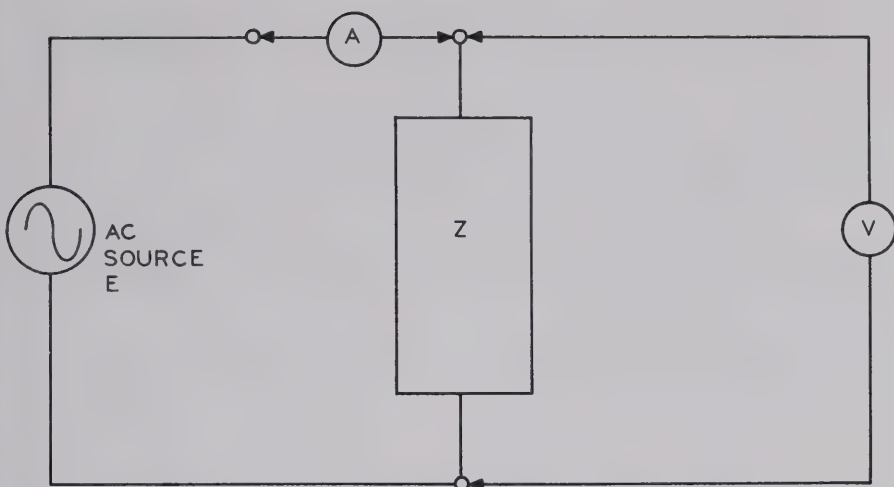

Figure 14
Why is impedance important? Because many of the components such as chokes, capacitors, transformers, loudspeakers, tuned circuits, filters, antennas and transmission lines have impedance characteristics when in ac circuits, and knowledge of how they function gives a clue to faults in electronic equipment containing them. Although impedance measurements probably won't be made as often as resistance measurements in service and maintenance procedures, Figure 14 illustrates a voltmeter-ammeter impedance-measuring method.
31. How is the impedance found in the circuit of Figure 14?